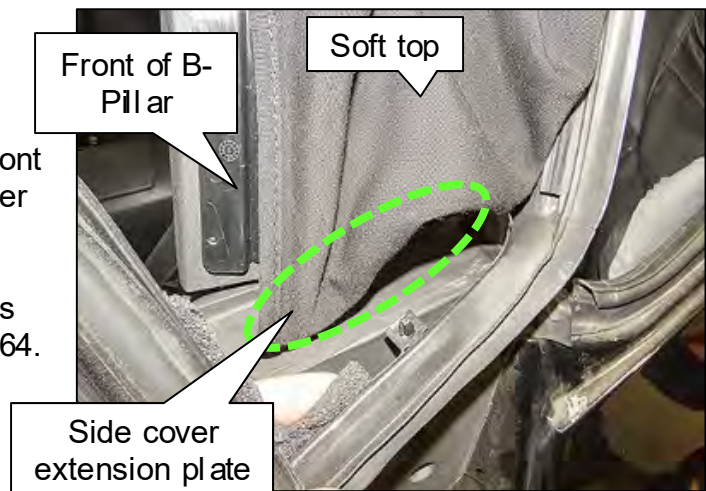

Figure 64
- The side cover extension plate is hidden by the soft top in Figure 64.